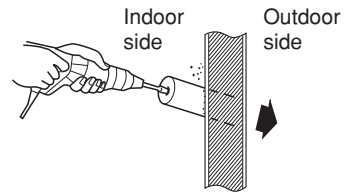

Fig. 3-76
- (8) If the tubing and wiring are to go towards the rear of the unit, make a hole in the wall. (Fig. 3-76)